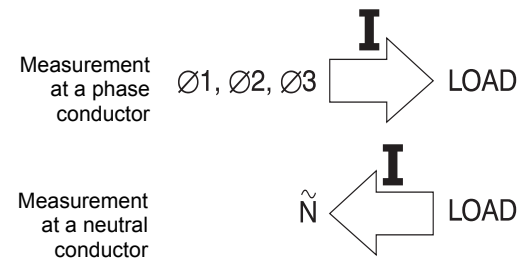

Figure 6. Orientation of the flexible probe
5. Make sure that the arrow marked on the probe coupling points toward the correct orientation for correct phase display on the oscilloscope. (See Figure 6.)